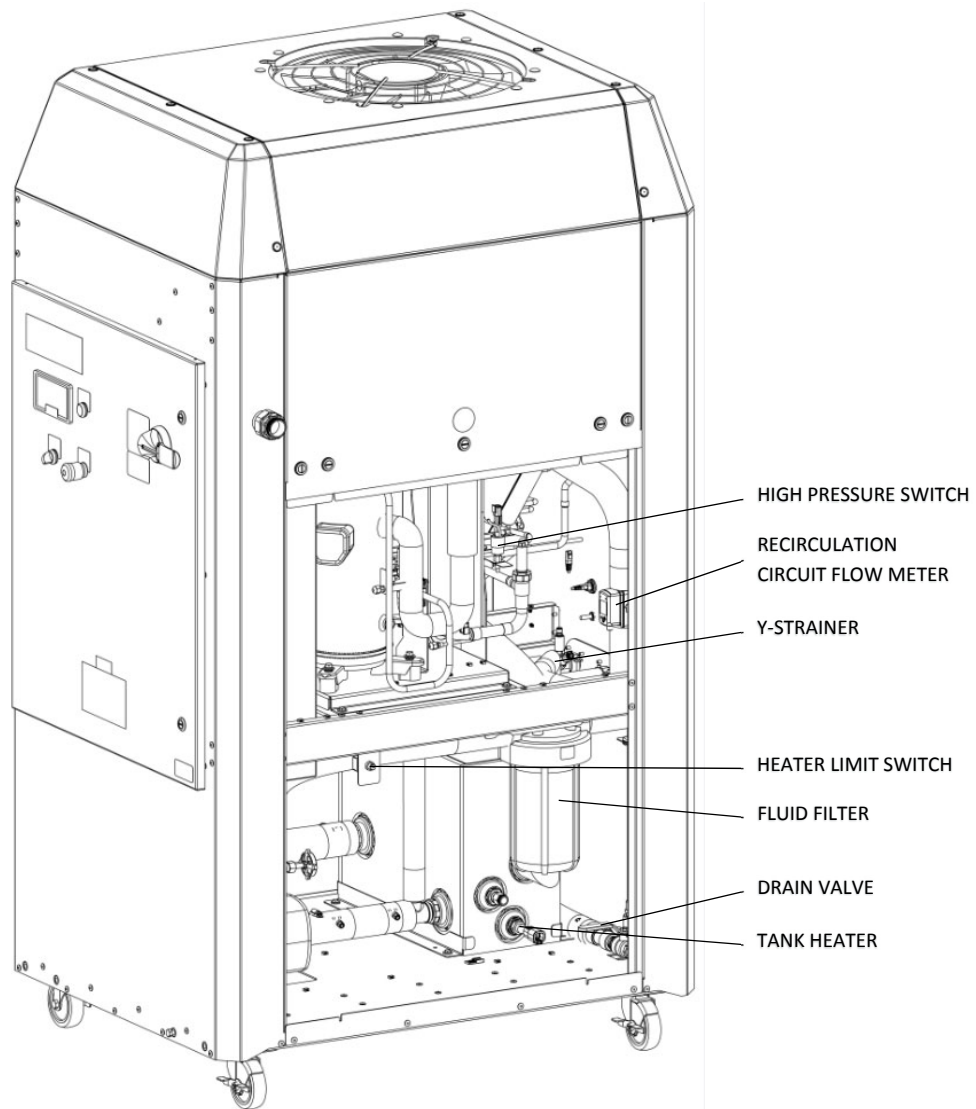
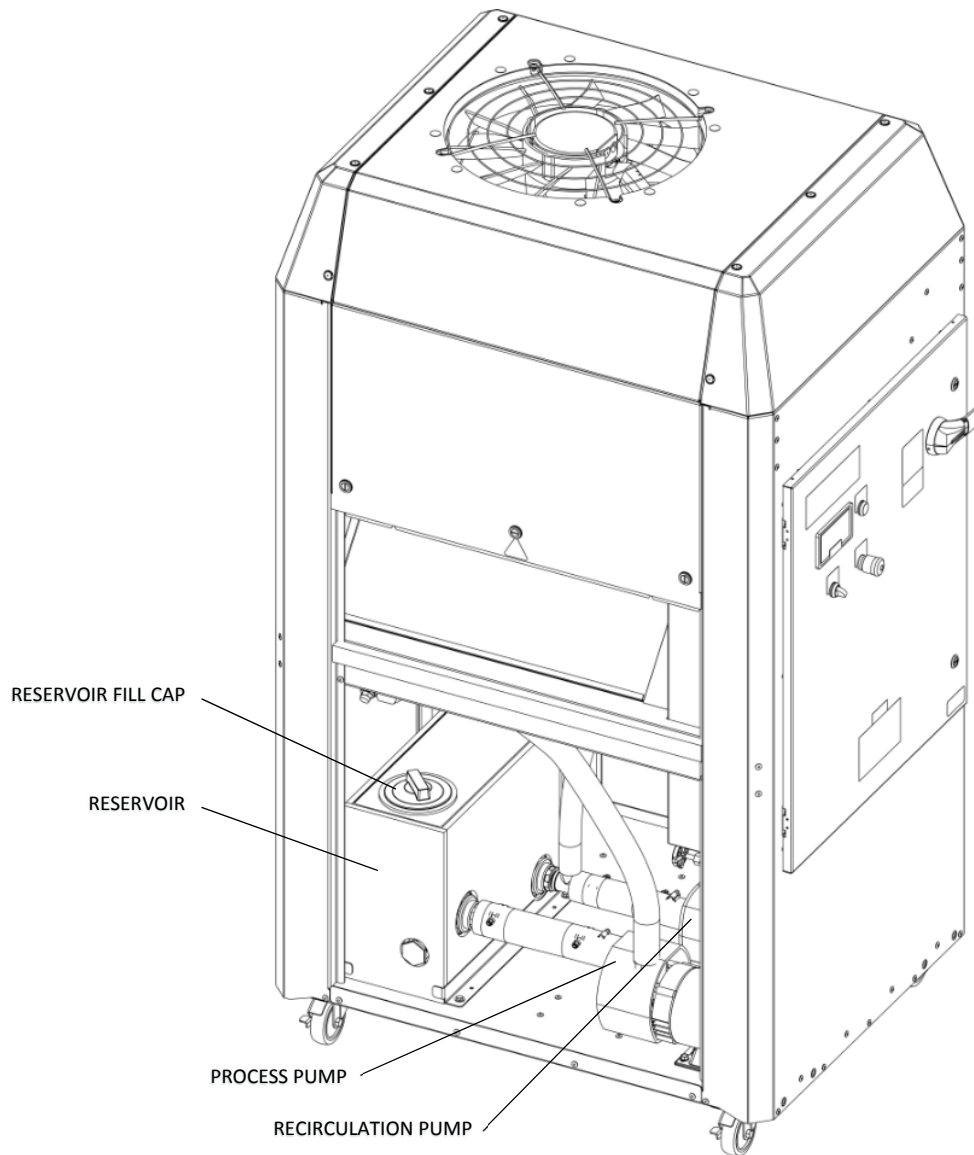

Figure 41: Chiller Internal Components (Air Filter/Intake Side)
Figure 42: Chiller Internal Components (Panel Side)
3. Figure 41).
Excessive buildup of dirt, oil and/or other debris on the condenser coil and air intake filters will cause reduced air flow rates for heat dissipation leading to lower cooling capacities. Ensure that the fins of the condenser coil are clean and undamaged. Use compressed air at no more than 30psi (2.0bar) to blow out the condenser coil and air intake filters in the direction opposite to normal air flow. For the condenser coil the cleaning air should enter the discharge side and exit from the intake side (refer to Figure 41 and Figure 42). The air intake filters show the direction of cleaning and installation. If the air filters cannot be cleaned then they must be replaced. Contact the factory for replacement parts if required.
Inspect the particulate filter to determine if it needs to be replaced. Refer to Figure 41 for the location. The particulate filter's sump can be removed and reinstalled using the provided filter wrench (typically stored in the inside door pocket of the electrical enclosure when shipped). After inspection or replacement reinstall the filter and sump correctly and securely using the filter wrench to prevent leaks. Contact the factory for replacement parts if required.
Inspect the y-strainer's screen weekly to determine if it needs to be cleaned or replaced. Refer to Figure 41 for the location. Remove the y-strainer's plug to access the screen. After inspection, cleaning or replacement reinstall the screen and plug correctly and securely to prevent leaks. If the screen cannot be cleaned it must be replaced. Contact the factory for replacement parts if required.
Access the coolant in the reservoir via the access cap (refer to Figure 42). If debris are present in the coolant the particulate filter is most likely clogged (refer to item 2 to inspect and replace the particulate filter). If algae or bacteria is growing in the reservoir then the system must be drained and the coolant must be replaced. Contact the factory for recommendations on this procedure.
3. Locate the particulate filter refer to Figure 41.